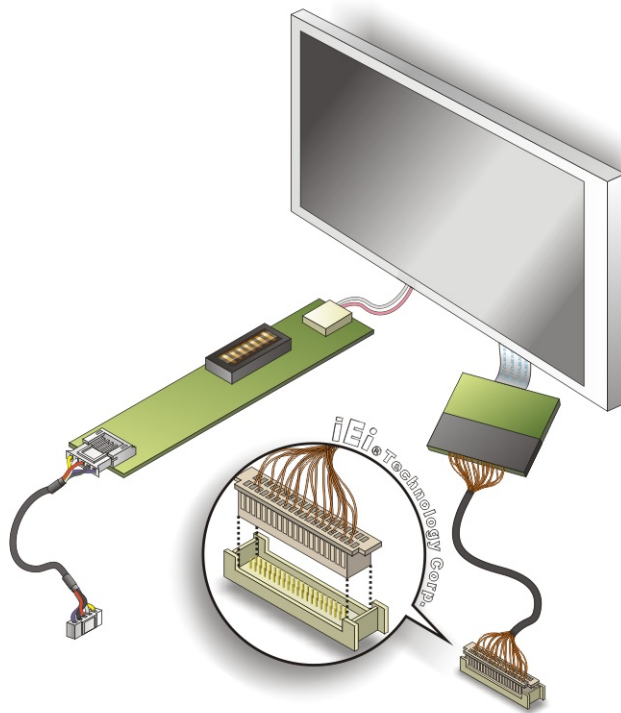

Figure 4-8: LVDS Connector
Step 2: **Insert the cable connector.** Insert the connector from the LVDS PCB driving board to the LVDS connector as shown in **Figure 4-8**. When connecting the connectors, make sure the pins are properly aligned.